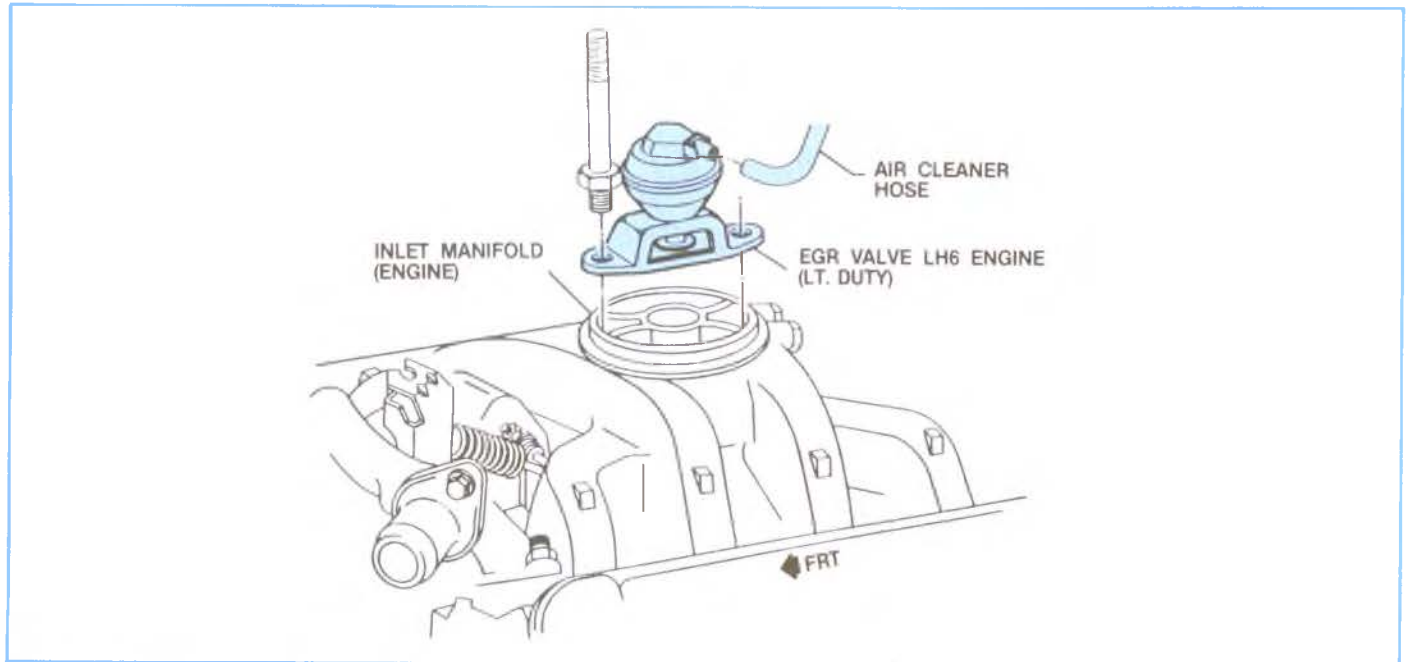

Figure 5-9, EGR Valve.
Spent gas is run through an EGR valve to the manifold, and then is part of the air intake (Figure 5-9). This is introduced into the combustion chamber. It takes up some of the volume of the incoming charge of air. When ignition takes place, the spent exhaust gases cannot partake in the combustion process, since they have already been used previously, so they add nothing. During the period of “rapid” combustion, the temperature increases quite rapidly. The temperature rise causes the gases to expand. The temperature in the chamber is much higher than the exhaust gases. The spent gases now take part in the process. They cannot add to the process because of lack of oxygen. So the spent or inert gas acts as a sponge and pulls heat into itself causing it to expand. As it does it absorbs heat of combustion and drops the temperature approximately 500 °F. Carbon monoxide is not a significant emission factor with diesels. Hydrocarbons are controlled by the injection nozzles, pump timing and combustion chamber design. The EGR valve is used on the LH6 (C) engine only.